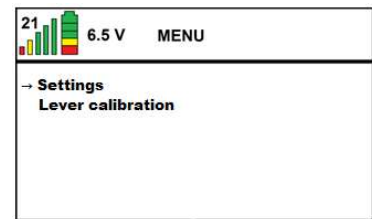

Figure: 15
- Switch on the remote control and activate the remote control menu by pressing the ✓ button (see figure 15).